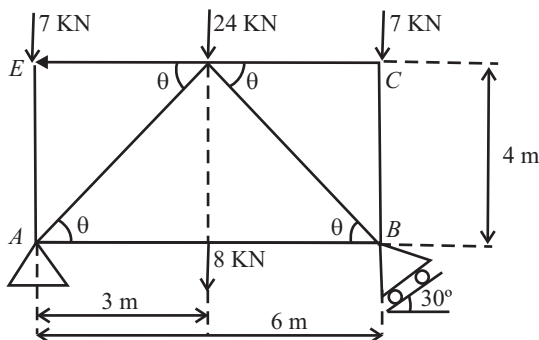

Fig 13.19
Q. 12: A truss is as shown in fig 13.19. Find out force on each member and its nature.